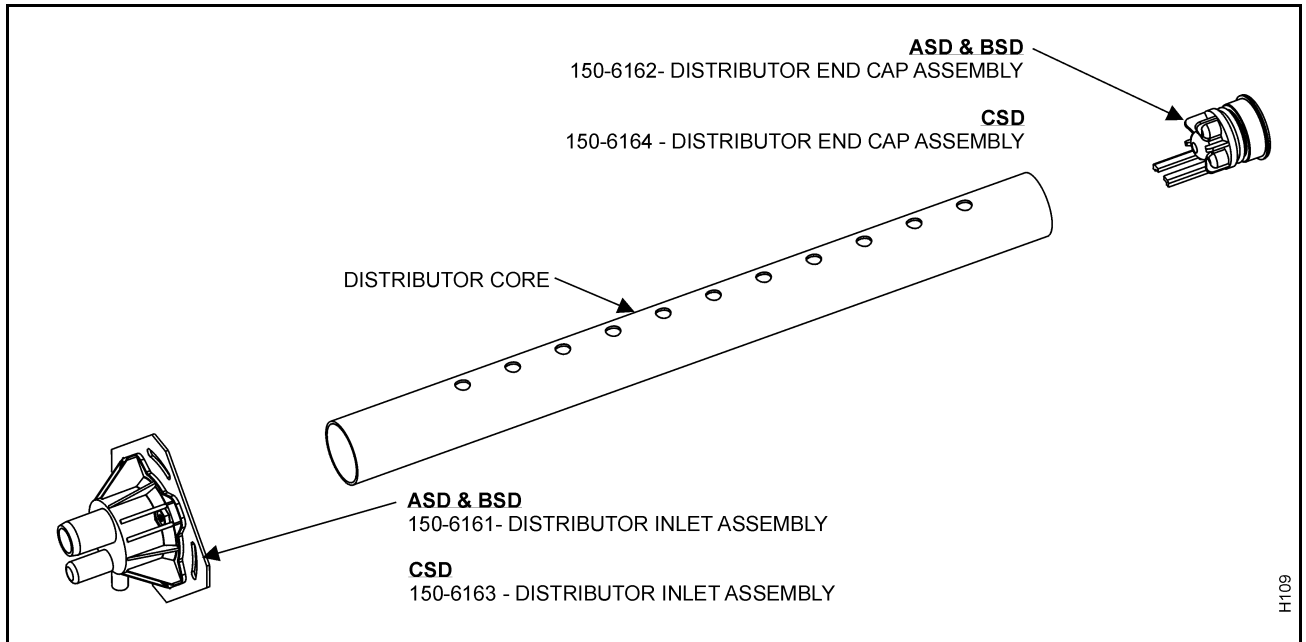

Figure 3. Distributor Exploded View and Spare Parts
(1) See Figure 3 for the ASD, BSD, CSD Distributor exploded view and spare parts.